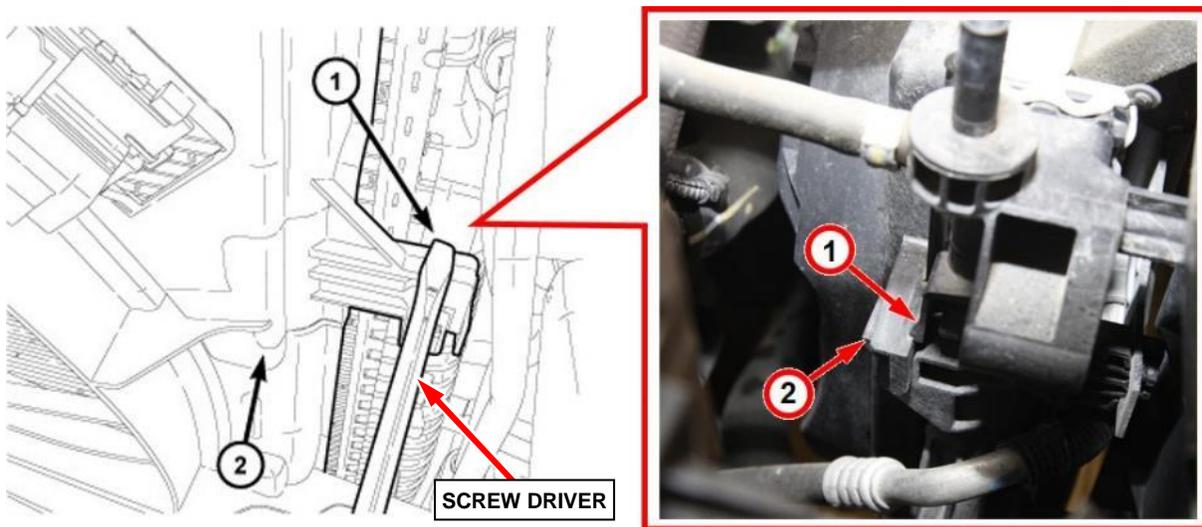

Figure 21 – Cooling Fan Module Mount Retaining Clip
19. From above or below as necessary for access, on each side of the cooling fan module, use a screwdriver or equivalent to depress the retaining clip (1) then lift upward to release the cooling fan module (2) from the mounts (Figure 21).
NOTE: The retaining clips (1) are only present on the upper right and upper left cooling fan module mounts. The lower right and lower left cooling fan module mounts do not have a retaining clips (Figure 21).
24. Position the cooling fan module (2) into the four mounting locations. Push the cooling fan module downward into the mounts and ensure to fully engage the two retaining clips (1) that are only present on the upper right side and upper left side cooling fan module mounts (Figure 21).